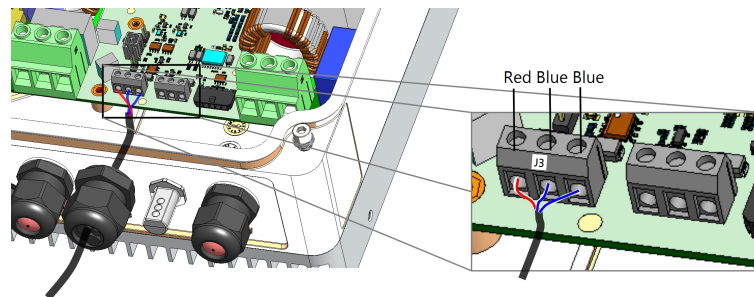

Figure 5: Connecting the sensor cable to the Smart Energy Hot Water device
5. Connect the other end of the sensor cable to the Smart Energy Hot Water device (See *Figure 5*):
6. Verify that a jumper socket *is assembled* on J5 pin header. This will allow usage of the PT100 sensor connected to J3 connector. Make sure to use the correct pin header matching the connector (*Figure 5*):